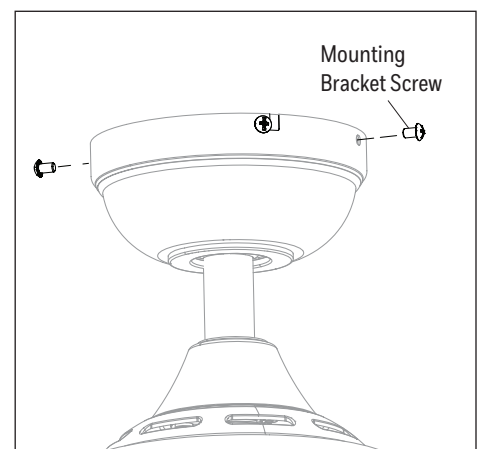

Figure 5.3
- Raise the canopy, ensure the two mounting bracket screws are aligned with the J-shaped slots in the canopy. Then turn the canopy in a clockwise direction until the mounting bracket screws are completely engaged in the J-shaped slots. Then, install the two previously removed mounting bracket screws in the round holes. Securely tighten all mounting bracket screws (Figure 5.3).